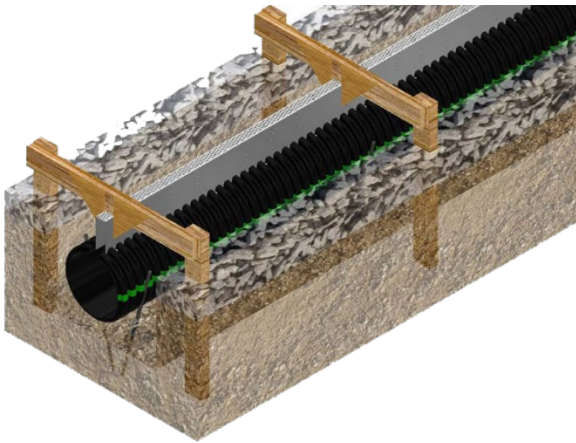

Figure 3
5. Brace the Duraslot so that it remains secure in place (Figure 3).